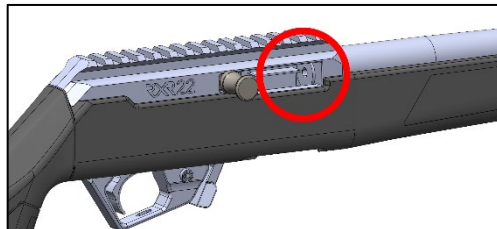

Figure 18
- You are now able to safely check the barrel chamber and bore visually for any obstructions – Figure 18. You must be certain there are no cartridges in the chamber or obstructions in the barrel.